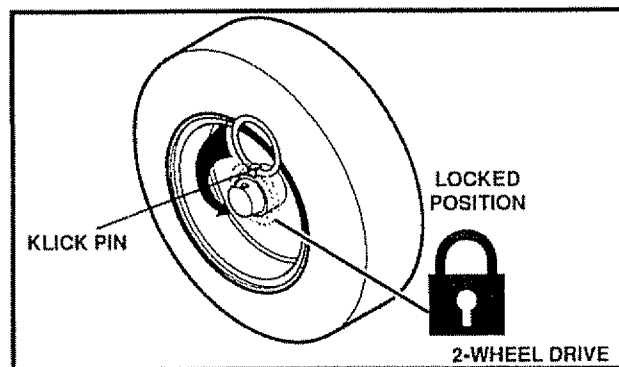

FIG. 12A
- The left hand wheel is secured to the axle with a klick pin (See Fig. 12A). This unit was shipped with this klick pin in the locked (through wheel hole) position